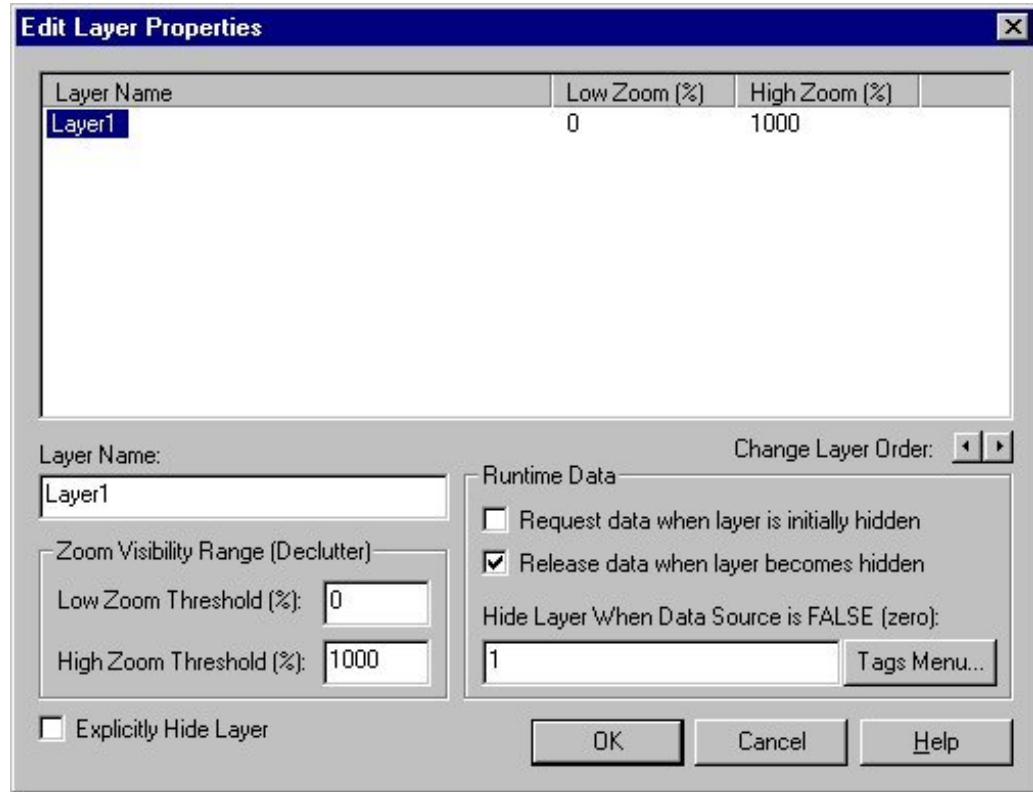

Figure 7-2: Edit Layer Properties Dialog Box
1. On the Format menu, select layers > Add Layer. The Edit Layer dialog box appears (Figure 7-2).